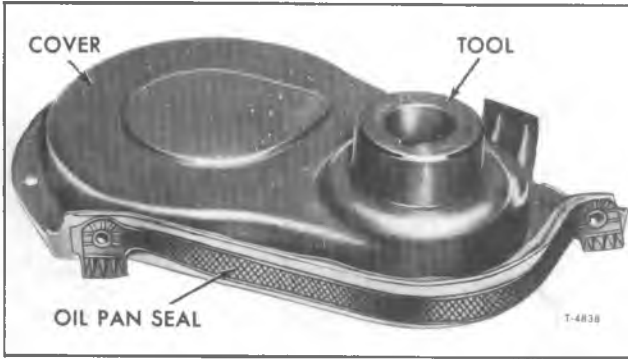

Figure 23—Centering Tool in Engine Cover
2. Install centering Tool (J-0966) or centering Tool (J-21742) in crankcase front cover seal (fig. 23).